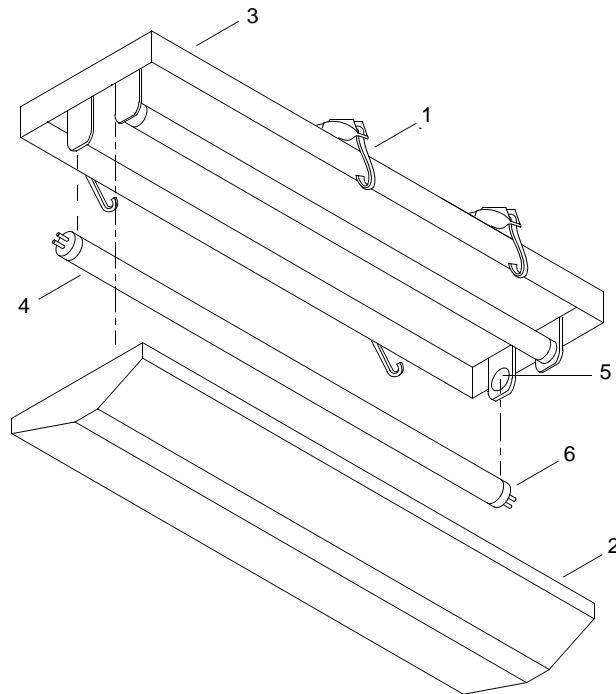

Figure 2. Fluorescent Light Bulb Removal/Installation
2. Disengage four latches (figure 2, item 1) holding light cover (figure 2, item 2) on light fixture (figure 2, item 3).
3. Remove light cover (figure 2, item 2).
4. Grasp light bulb (figure 2, item 4) and turn 90° clockwise.
5. Pull down on light bulb (figure 2, item 4) and remove from receptacle (figure 2, item 5).
1. Position new light bulb (figure 2, item 4) near receptacle (figure 2, item 5).
2. Slide light bulb pins (figure 2, item 6) into receptacle (figure 2, item 5).
3. Turn light bulb (figure 2, item 4) 90° until tube clicks into place.
4. Position light cover (figure 2, item 2) over light fixture (figure 2, item 3).
5. Engage four latches (figure 2, item 1).